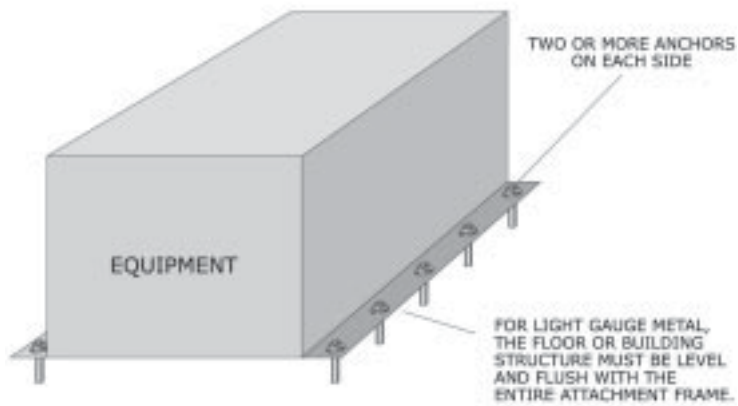
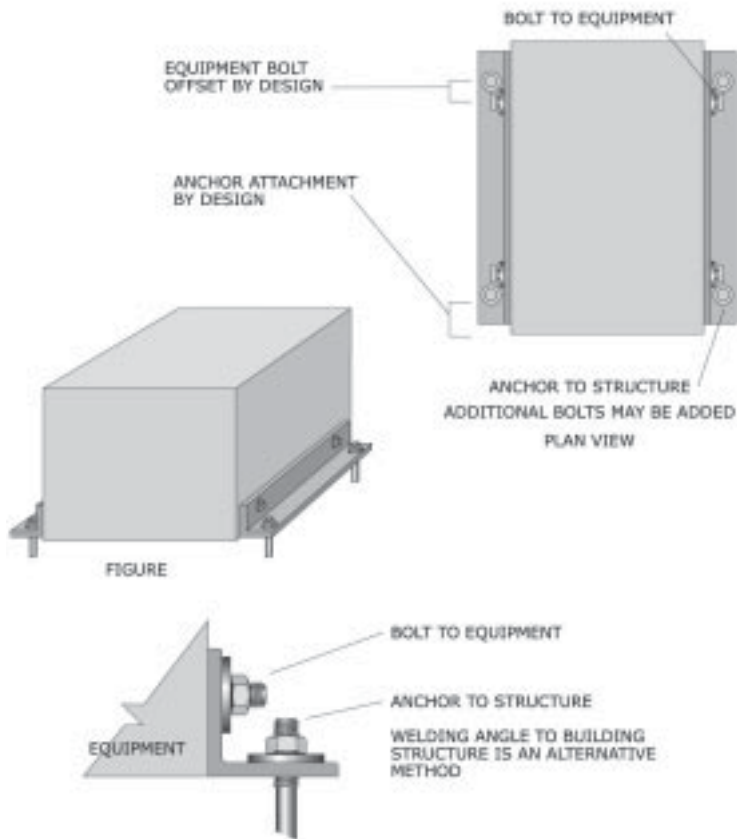

Figure 73: Direct attachment of equipment with sheet steel housing to a building.
Figure 77: Two angles used to attach the equipment to the building.
Attachment of equipment with sheet steel housings is shown in Figures 73 and 74 (page 52).
**Do not add shims under equipment with sheet steel housings as shown in Figure 73 above. If the concrete floor/pad is irregular, reinforce housing with angles as shown in Figure 77 (page 56).**
- Full-size angles on each side of equipment (Figure 77, page 56).